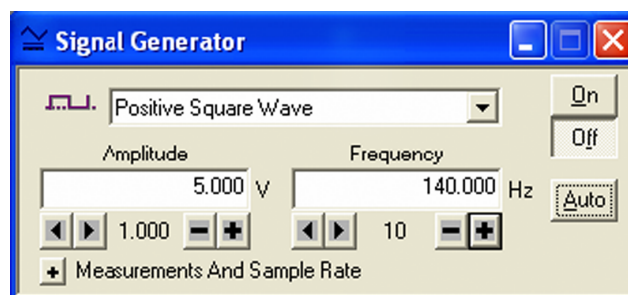

Figure 9: signal generator window
- 6 Set the signal generator to produce a positive square wave by highlighting the positive square wave in the signal generator window as shown in Fig. 9 below.